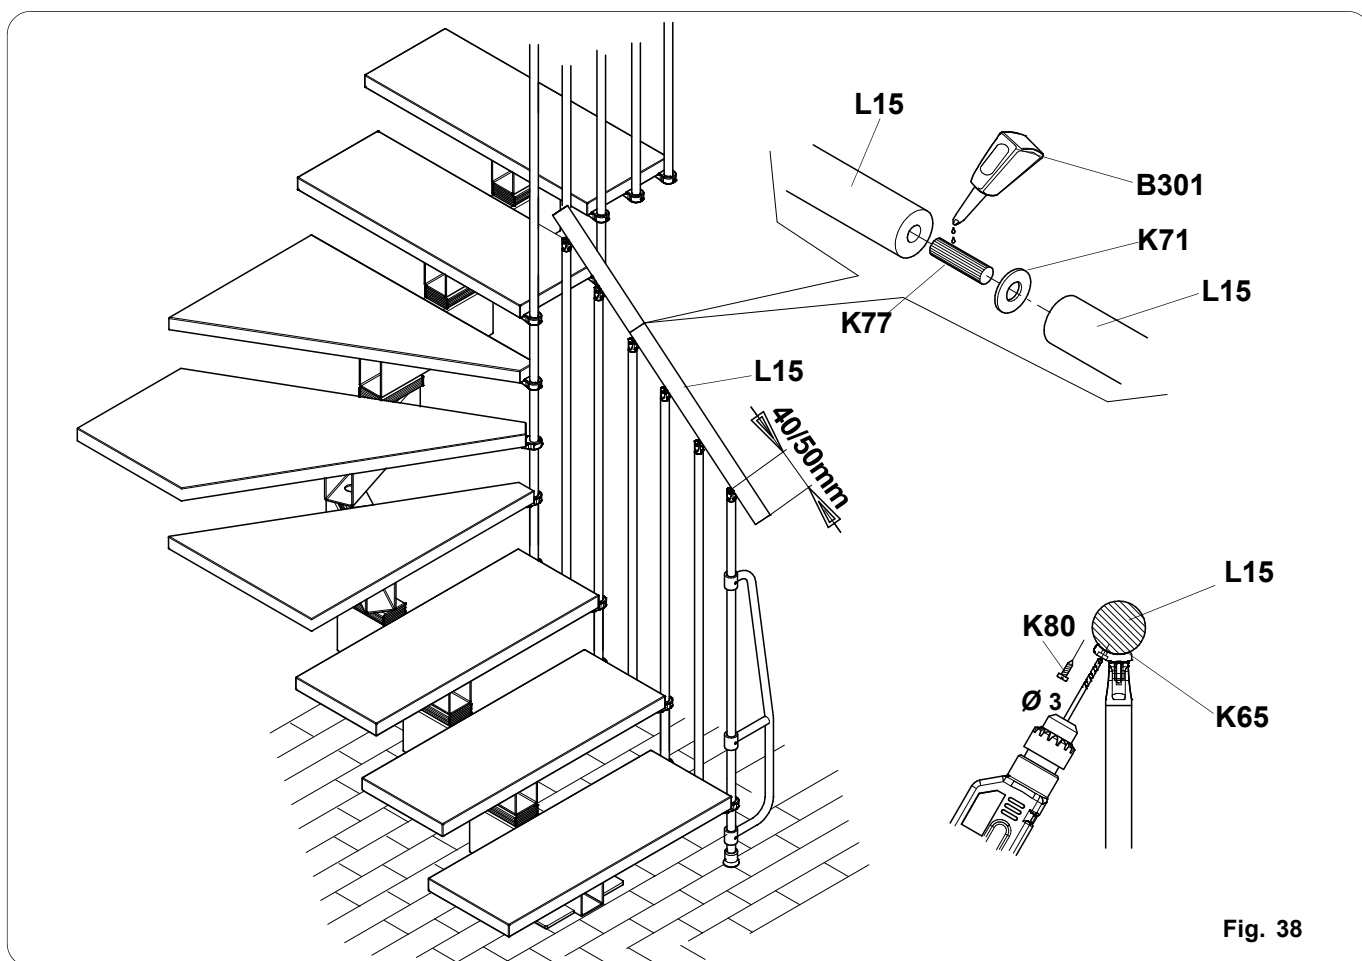

Fig. 38
- All configurations envisage that an additional column must be mounted on the last straight step before the staircase turns. Figure 38 shows the example of a “U” staircase.
- After having assembled the handrail the **K68** plug must be mounted at both ends. Place the plug at one hand and trace the position of the anchoring holes. Drill with a  $\varnothing 4$  wood drill and mount the **K68** plug with the relevant **K76** screw (Fig. 38). That operation must be implemented at both ends of the handrail.